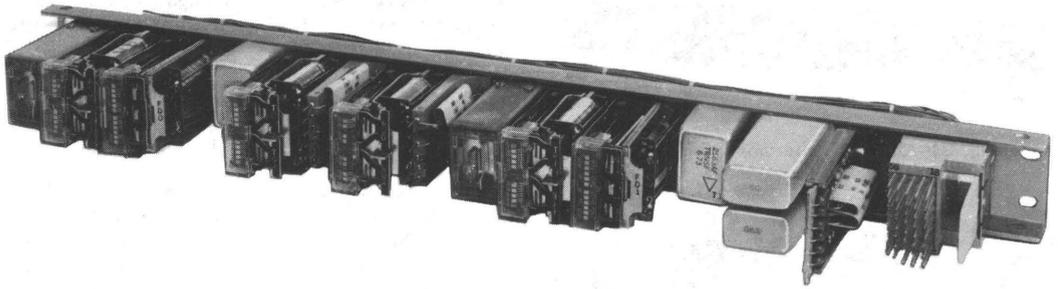

Fig. 35—J53050K Interconnecting Unit
**2.36 J53050K Interconnecting Unit**—Provides a connection between CPE, call restricting equipment, and a Bell System CO trunk associated with a Bell System PBX. The apparatus is mounted on a 2- by 23-inch mounting plate and is intended to be relay rack mounted. One J53050K,L1 will accommodate two CO trunks. (See Fig. 35.)